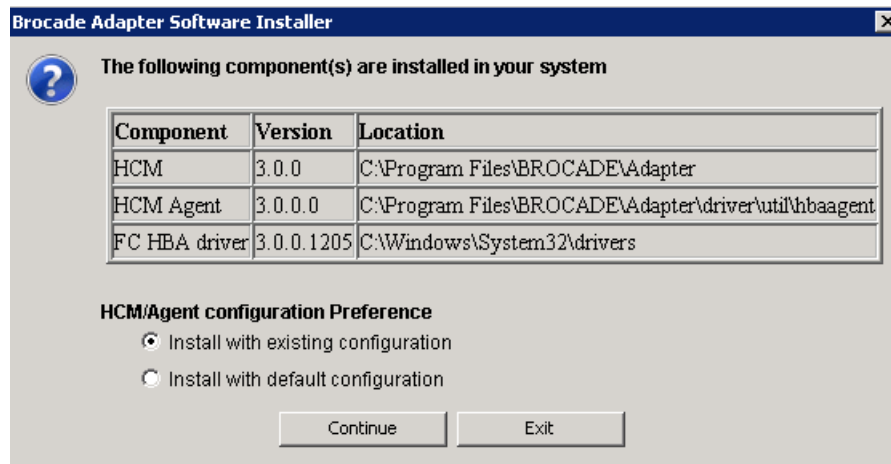

FIGURE 12 Existing software components installed screen
6. If a screen such as the one in Figure 12 on page 72 displays listing software components already installed on your system, select one of the following options, click **Continue**, then skip to step 10.